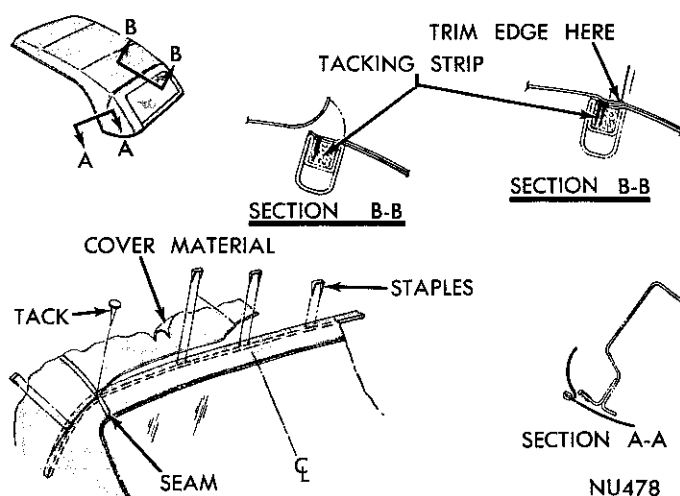

Fig. 9—Tacking Cover at No. 3 Bow
(14) Position weatherstrip retainers on roof rails and using a sharp pointed tool align screw holes in curtain and cover material with holes in roof rails. On new covers use tool to make holes in cover.
(15) Install retainer screws and weatherstrips.
(16) Raise top completely and lock in position.
(17) Open and close both front doors several times and inspect fit of cover in relation to top of door glass and vent wings. Should either vent wing or door glass contact beading on edge of cover on one side, the cover may be loosened at the header and moved slightly toward the opposite side until clearance is obtained. Should contact at both doors be made, it will be necessary to build up cover pads on both sides to eliminate interference.
(18) While keeping center line of cover and header in alignment, tack one half of cover to the header. Space tacks approximately one inch apart.
(19) Install a drive nail at lower front edge of cover and one long tack through cover beading to the header.
(20) At rear bow on same side, make certain center line marks of cover and bow are in alignment and tack cover into position spacing tacks approximately 1/4 inch apart. Install a large tack through cover beading at rear bow (Fig. 9).
(21) Complete tacking of cover at tacking strips, spacing tacks 1/4 inch apart.
(22) Repeat steps 18, 19 and 20 for opposite side. Inspect alignment of cover and if satisfactory complete tacking operation at the header. **Make sure all wrinkles are removed at header during tacking operation. Do not allow cover material to lap over.** Tacks should be installed approximately 1/8 inch apart.
(23) Position locking flaps at front outer edge of cover between weatherstrip retainers and front rail. Install retaining screws and weatherstrips.
(25) Apply cement between outer edge of cover